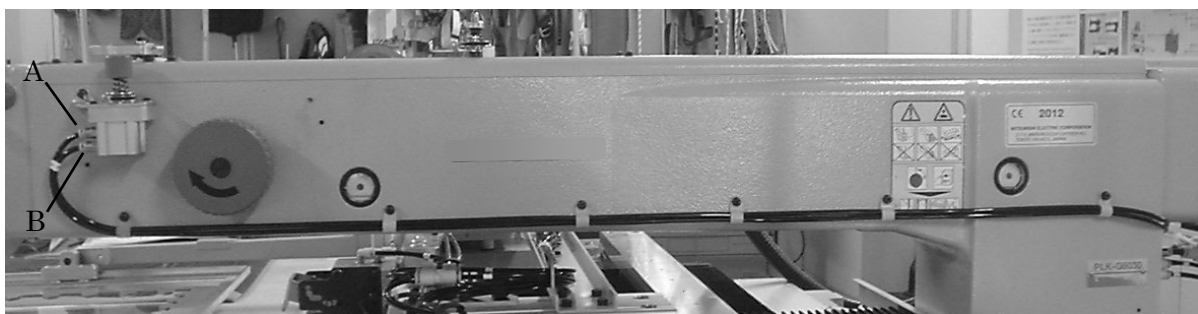

Fig.6
- (4) Secure the sewing machine right air tube using the nylon clips of accessory ,as shown in Figure 6.